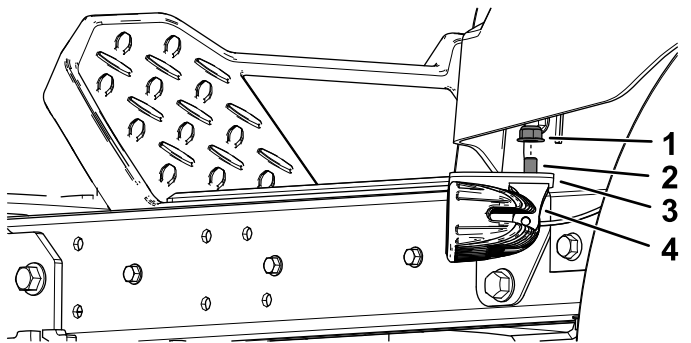

Figure 6
2. Insert the hex-head bolt (5/16 x 3/4 inch) through the LED light and side light bracket, and secure it with the flange nut (5/16 inch) as shown in Figure 6.